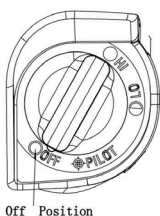

Figure 1
1. Make sure four-position Control Knob is in “OFF” position. See Figure 1.